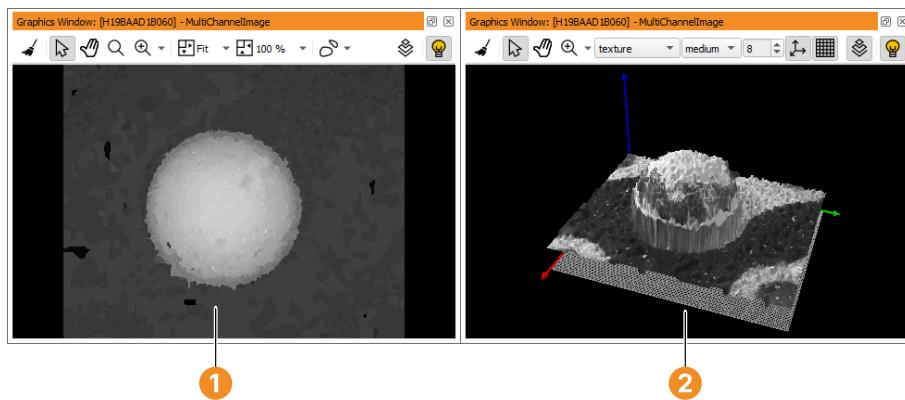

Figure 6.19: Default vs. 3D plot mode.
Clicking  activates an interactive 3D plot mode. It displays meaningful information for height field images, such as images that encode height information as gray values. The greater the gray value, the higher the corresponding image point. Figure 6.19 shows a height field image of a solder ball ① and the corresponding 3D plot ②.